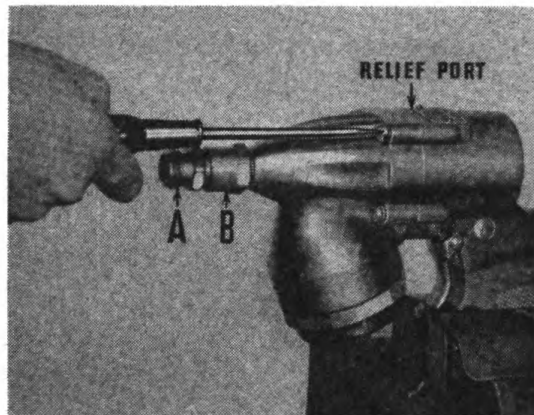

Figure 207
(3) Clean check valve at gun outlet by first unscrewing shut-off valve assembly ("A" Figure 207). The check valve spring and ball can then be removed from the adapter ("B" Figure 207), and the check valve seat cleaned with a rag.
(2) Separate head casting from handle casting by removing four screws (See Figure 207). Hold head casting when removing last screw to prevent large spring from throwing it on floor.
d. WHAT TO DO IF AIR LEAKS OUT THE RELIEF PORT (SEE FIGURE 207).
piston return spring. This large spring is easily replaced by removing the four casting screws (See Figure 207).